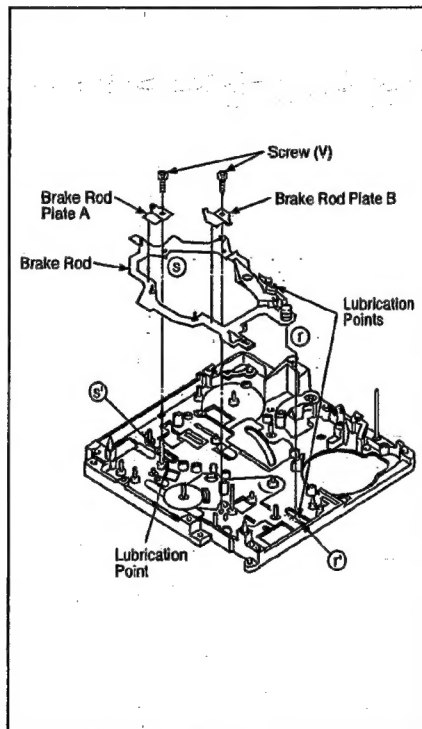

Fig. M33
- Fig. M33 Remove the T1 Arm Unit.
- Fig. M33 Unscrew 2 screws (V) and remove the Brake Rod, Brake Rod Plate A and B.